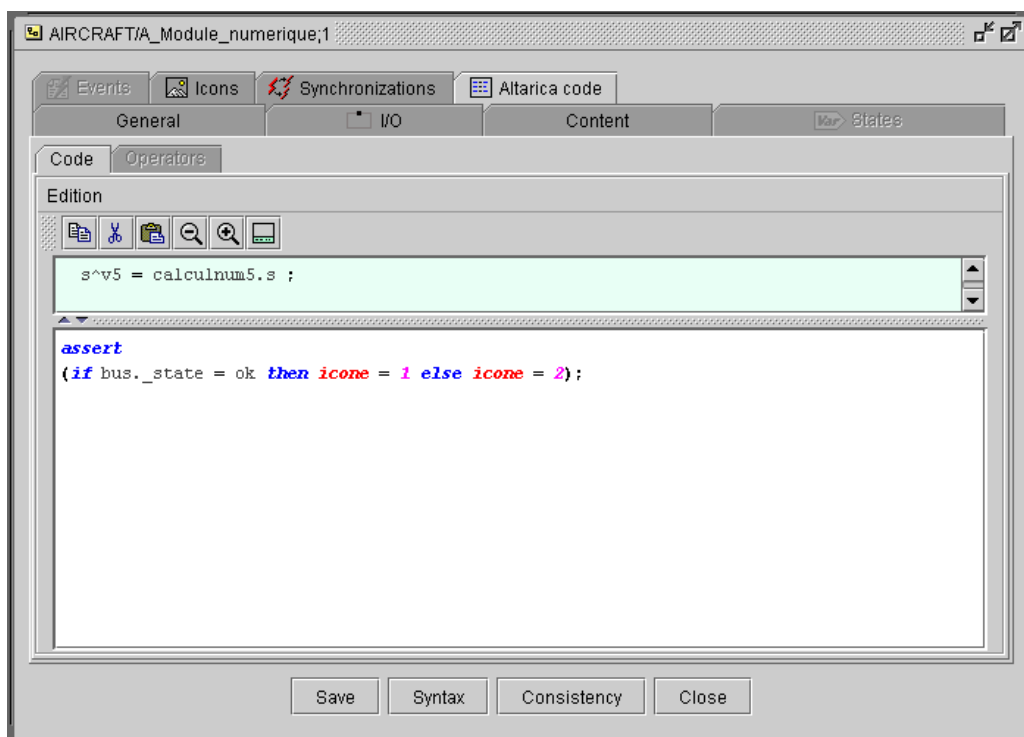

Figure 82 : Equipment - Code Altarica code
The **Code** Altarica tab (Figure 82) allows filling of the Altarica code, specifying the change of the equipment icon (cf. Annexe 1 : Altarica code syntax).
- The script of the Altarica code (Figure 82) specifies how the change of icon for the equipment is done. The syntax of the Altarica code associated is identical to the component assertions (see Annexe 1: Syntax of Altarica code). The assertion filled must specify the assignment of output flow variable "icon" (key word Altarica) of the equipment according to the equipment flow variables or the state variables associated to components within the equipment architecture.
- When the selection is completed, click on the button **Syntax** (Figure 82) in order to carry out the syntax control of the Altarica script. In case of syntax errors, a window error appears describing precisely the type of error and showing the script line in question.
Click now on the button **Consistency** (Figure 82), in order to carry out the consistency control of Altarica script defined for the assignment of the **icon** flow variable.